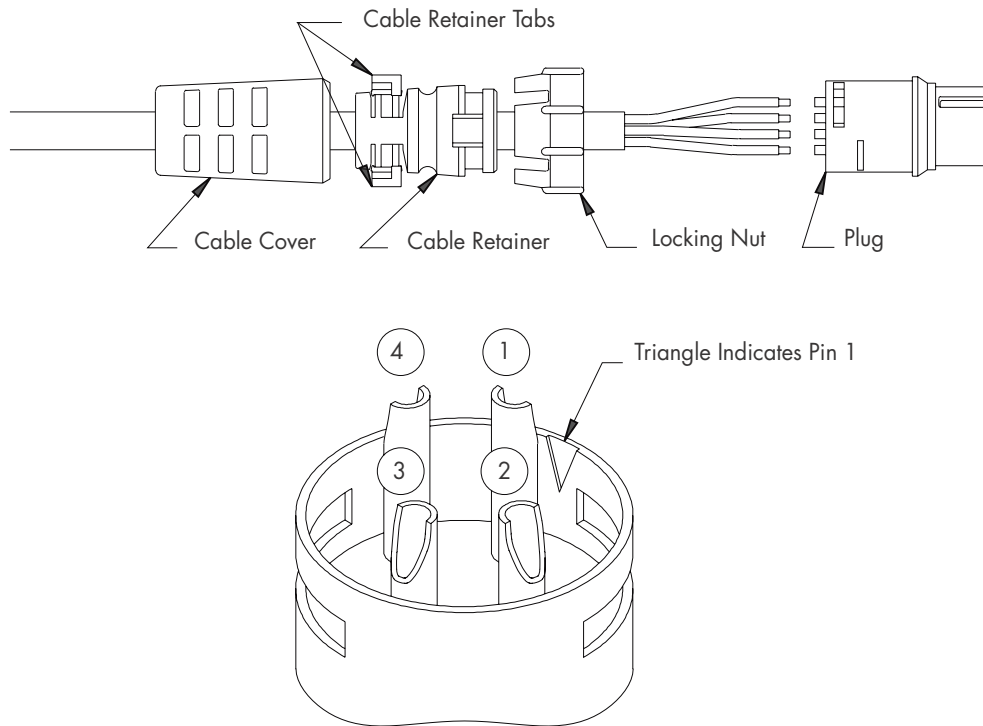

Figure 1. Connector Assembly
1. Locate the two connector assemblies. Slide all of the cable components onto the wire cable as shown in Figure 1.